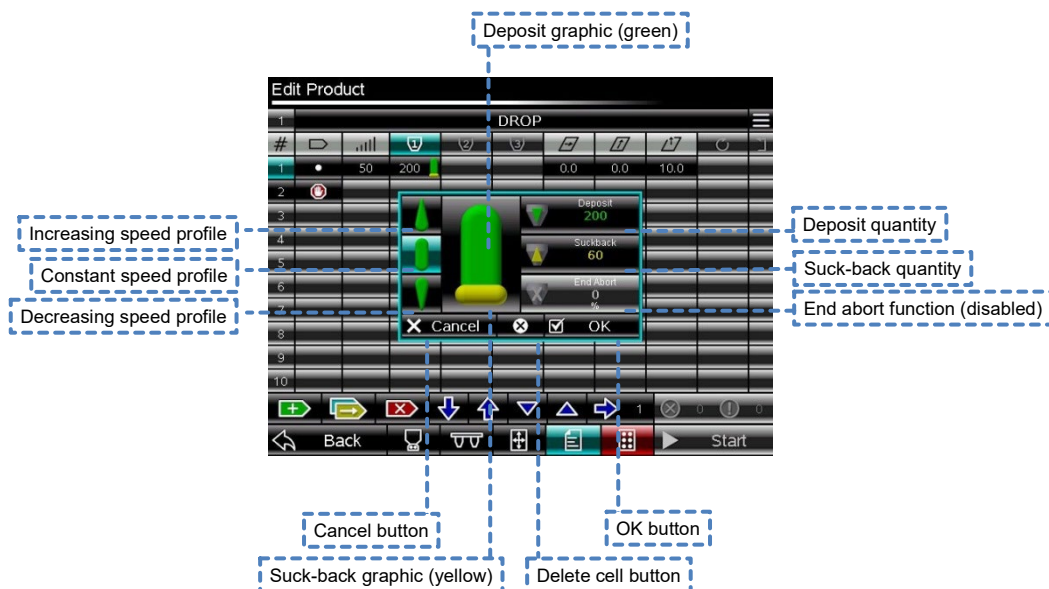

Figure 23: Pump 1/Pump 2/ Pump 3 pop-up – POINT command - Edit Product (submenu).
- **Pump 1/Pump 2/Pump 3** – each cell contains a pop-up sub-menu as shown in Figure 23: